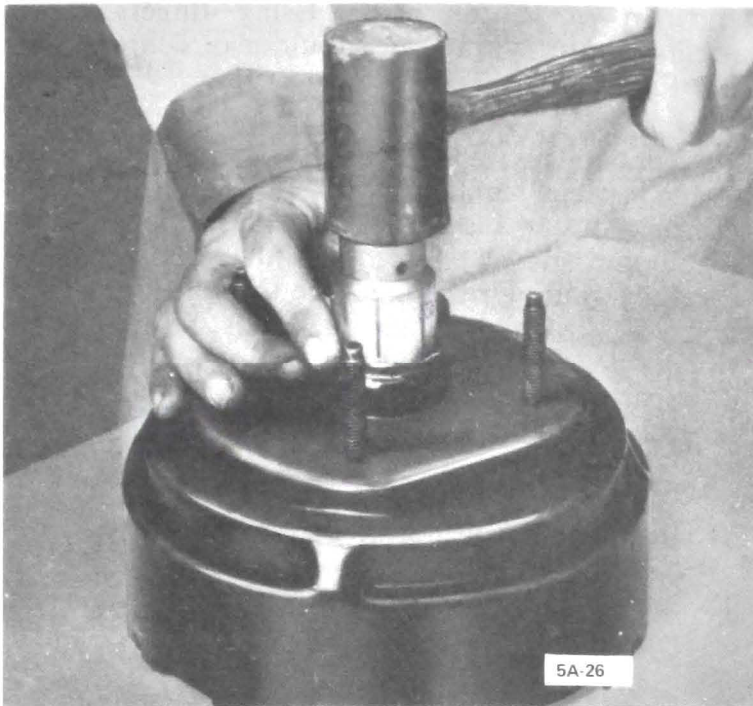

Figure 5A-26 Removing Rear Seal
25. If rear housing seal requires replacement, use a blunt punch or 1-1/4" socket to drive seal from housing. See Figures 5A-26 and 5A-27.